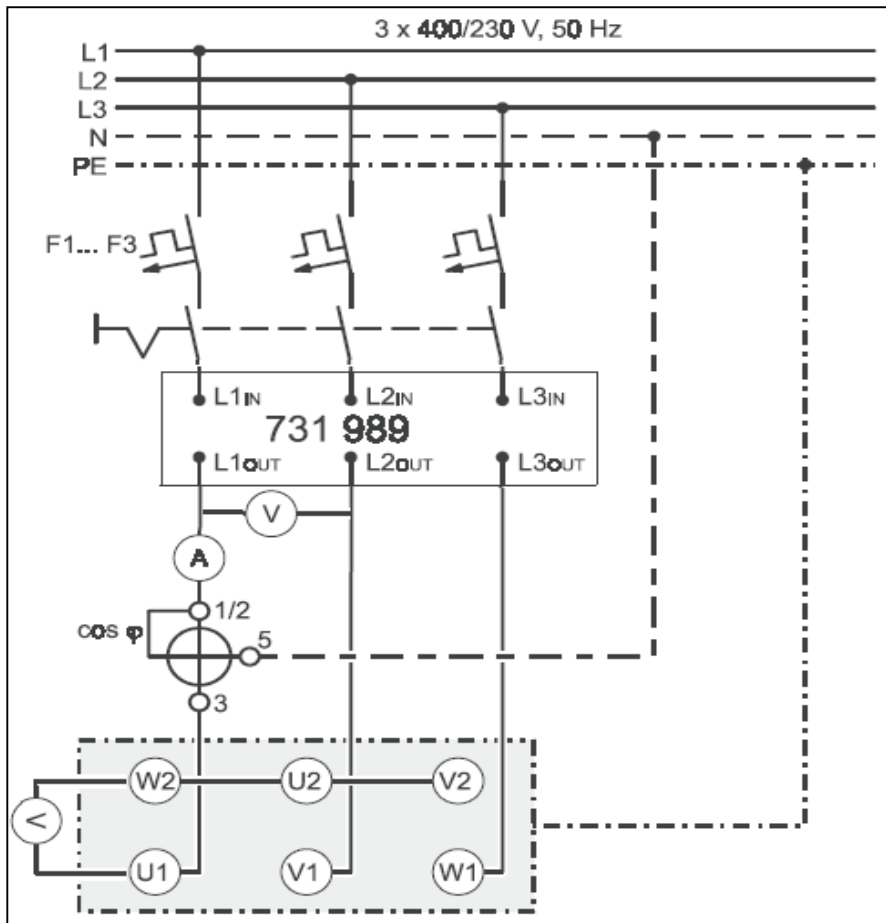

Figure 7.2: Connecting the Reluctance Motor in a Star Circuit
1. Set up the circuit as shown in Figure 7.2